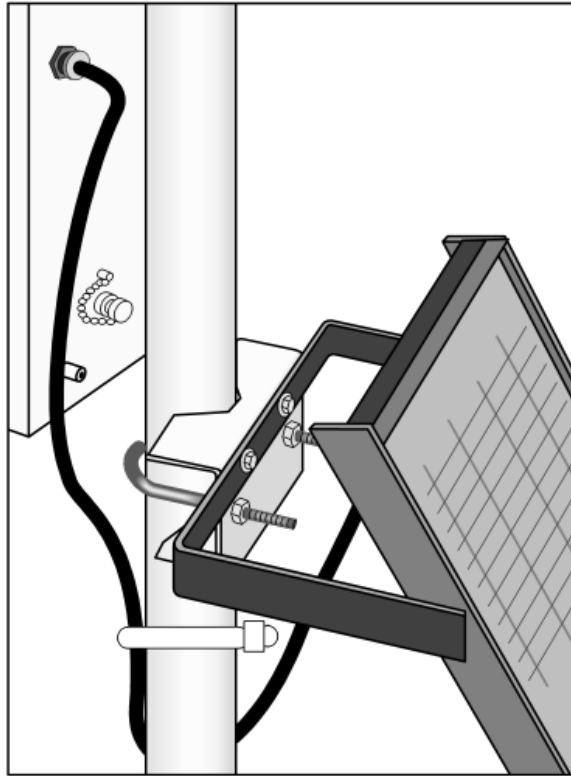

FIGURE 6-42. Solar panel mounting and cabling
1. Mount the solar panel to the pole using the mounting brackets (FIGURE 6-42 (p. 60)).